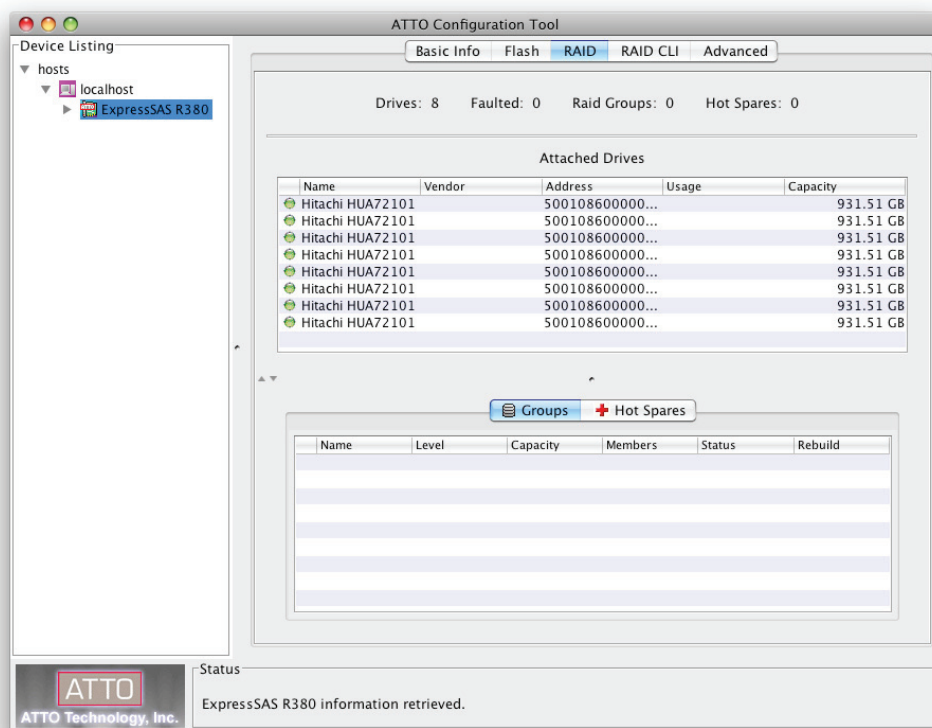

Figure 10
2. The Configuration Tool main screen appears. See **Figure 10** on page 12 for an overview of the screen. In the **Device Listing** pane on the left side of the window, click ExpressSAS Rxxx under **localhost**.